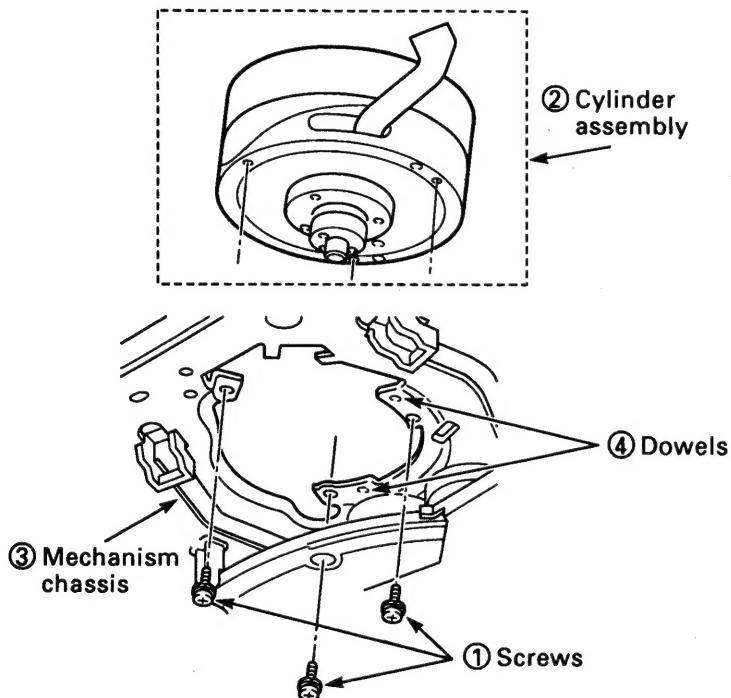

Fig.3-5-7
**3-5-4. CYLINDER ASSEMBLY (See Fig.3-5-7)**
- 2) Remove the three screws ① and the cylinder assembly ②.